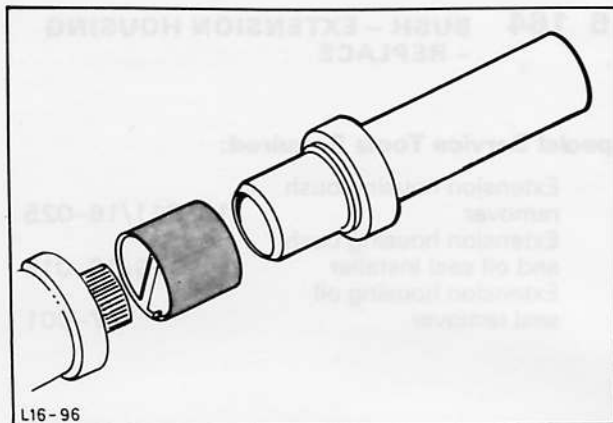

Fig. 107. Fit extension housing bush with Special Tool No. 16-015/16-016
5. Press in new extension housing bush with Special Tool No. 16-015/16-016, Fig. 107.